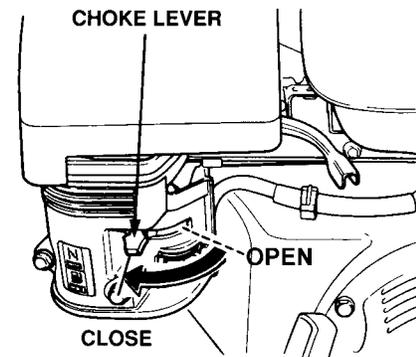

Figure 10. Engine Choke Lever
3. Place the **choke lever** (Figure 10) in the "CLOSED" position if starting a **cold engine**.